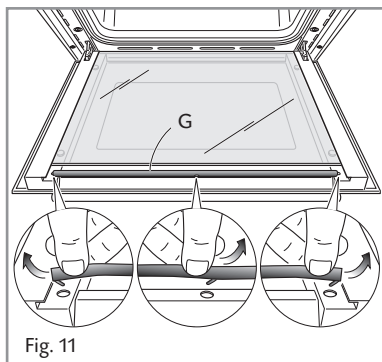

Fig. 11
- Remove the seal **G** by unhooking the no. 3 fixing hooks (fig. 11).